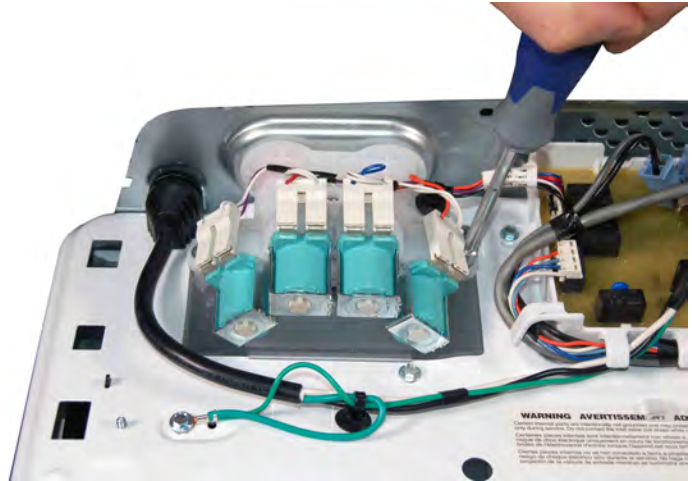

Figure 2
- Using a 1/4" nut driver, remove the two (2) hex-head screws (one on each side) securing the water inlet valve to the top panel of the washer. (See Figures 2 and 3.)